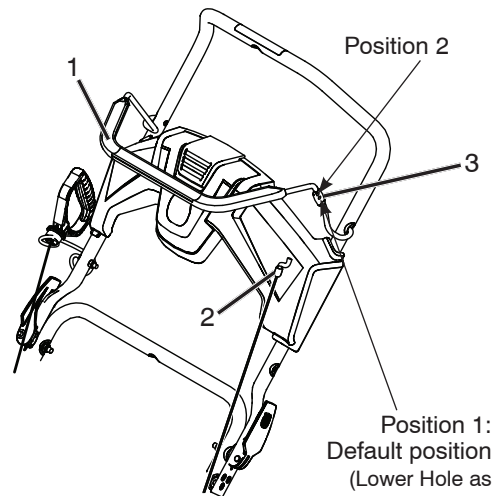

Figure 20
1. With the control bar disengaged, unhook and move the control cable to the highest position. (Figure 20).